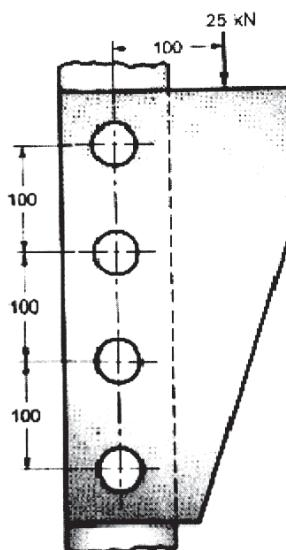

Fig.1
- Q5)** a) A bracket, fixed to a vertical column by means of four identical bolts, is subjected to an eccentric load of 25 KN as shown in fig.1. If the permissible shear stress for the bolt is 60N/mm², determine the size of the bolt. [7]